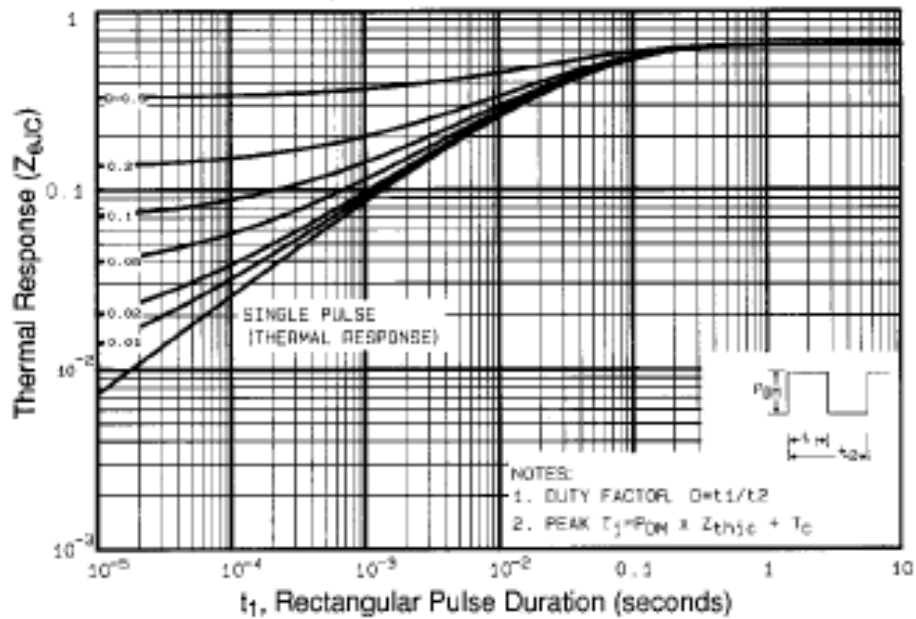

Fig 11. Maximum Effective Transient Thermal Impedance, Junction-to-Case
① Repetitive rating; pulse width limited by max. junction temperature (See Figure 11)
③ I_S≤30A, di/dt≤190A/μs, V_{DS}≤V_{(BR)DSS}, T_J≤150°C